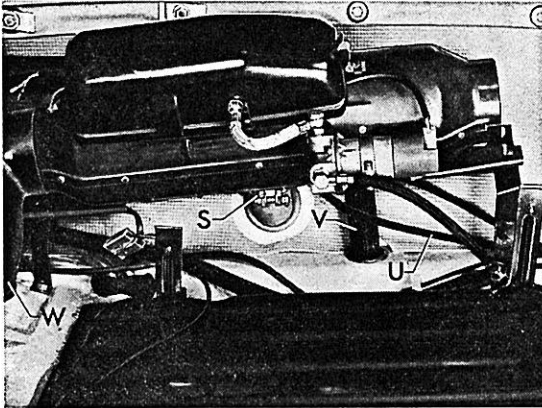

Fig. 14
- 20 – Press warm air elbow into hole until it clicks (Fig. 14).
- 21 – Secure heater to the three brackets after installing hose V for combustion air (must fit tightly). (Fig. 14)
- 22 – Secure exhaust pipe with clamp S (Fig. 14).
- 23 – Push overflow hose on to overflow pipe (see F 4.1/2-1 and Fig. 14).